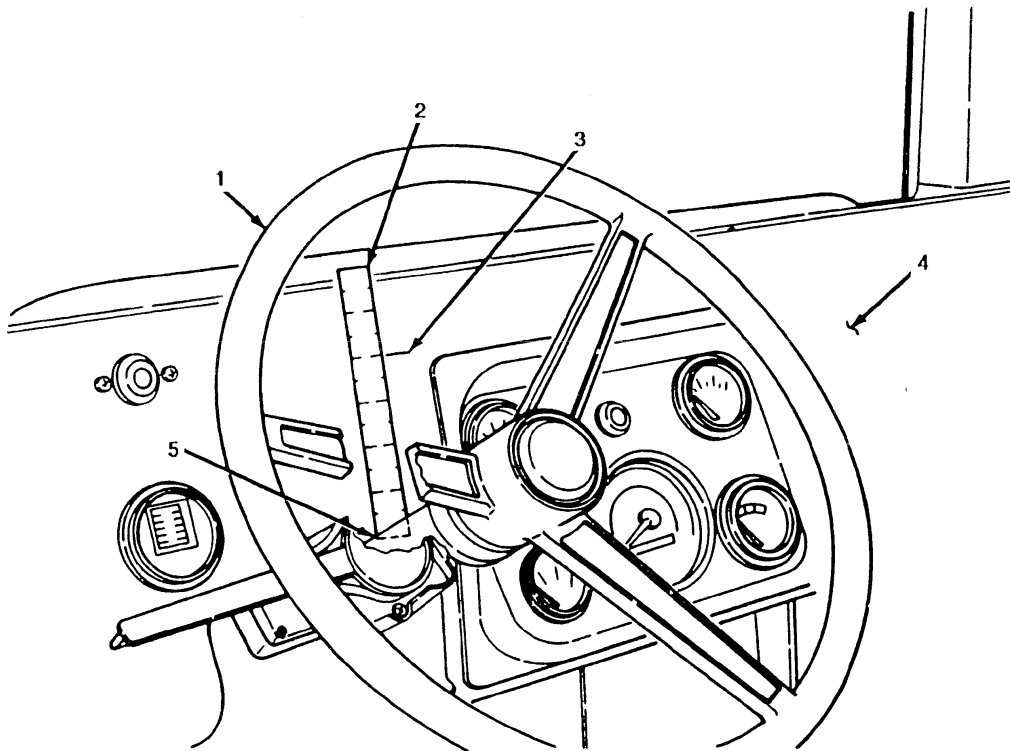

FIGURE 3-13
When performing step "A", use a ruler (2) positioned on steering column (5) and mark a reference line (3) on dash (4) to check vertical movement. (see figure 3-13)
- A. Using moderate hand force, move steering wheel (1) up and down. Steering column (5) should have 0.125" or less movement from center position to highest and lowest vertical points. (see figure 3-13)